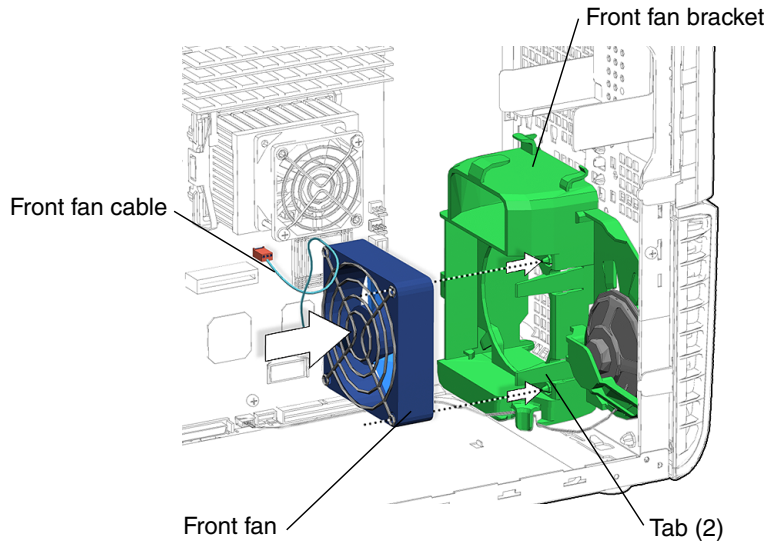

FIGURE 13-14 Aligning the Front Fan to the Front Fan Bracket
2. Locate the front fan bracket (FIGURE 13-14).
5. Install the front fan into the front fan bracket (FIGURE 13-14). Press the fan into the fan bracket until the two tabs click.